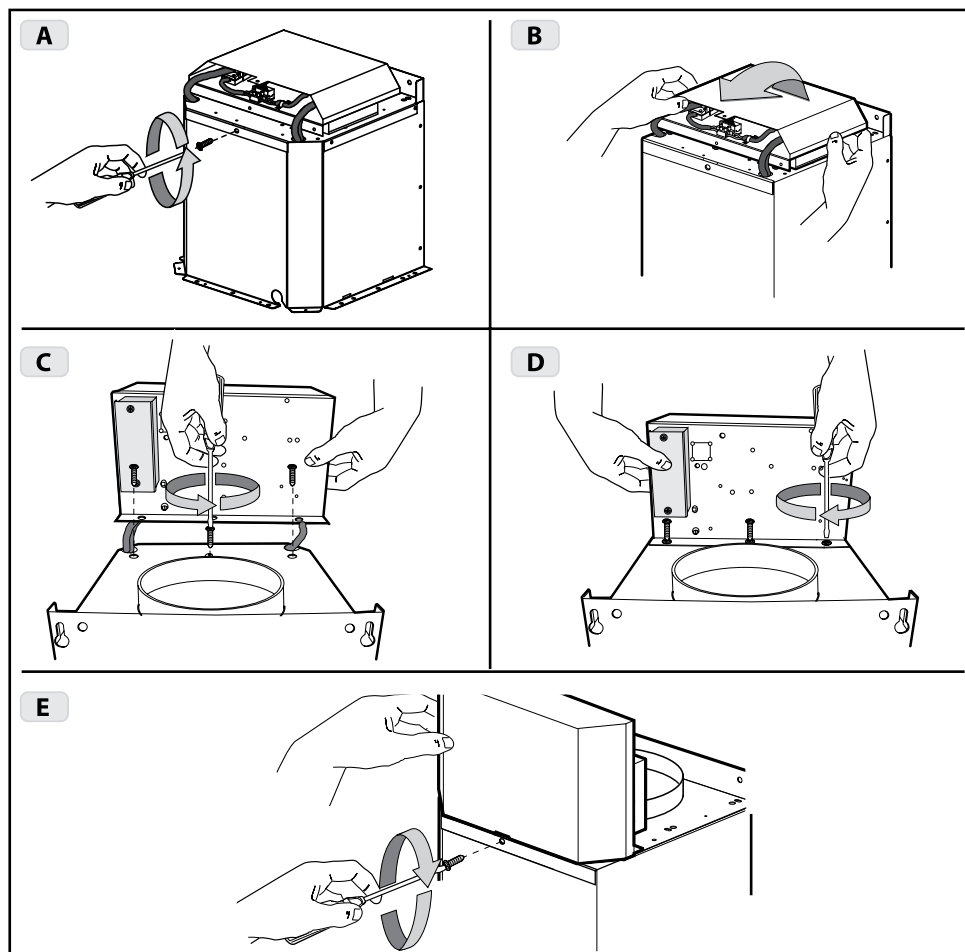

Fig.1
- **WARNING** - TO REDUCE THE RISK OF FIRE, ELECTRIC SHOCK, OR INJURY TO PERSONS, OBSERVE THE FOLLOWING: Before making electrical connections to power supply, the electrical box must be secured in place as indicated in Fig.1.
Before installing the appliance fix the electrical box as indicated in Fig.1.